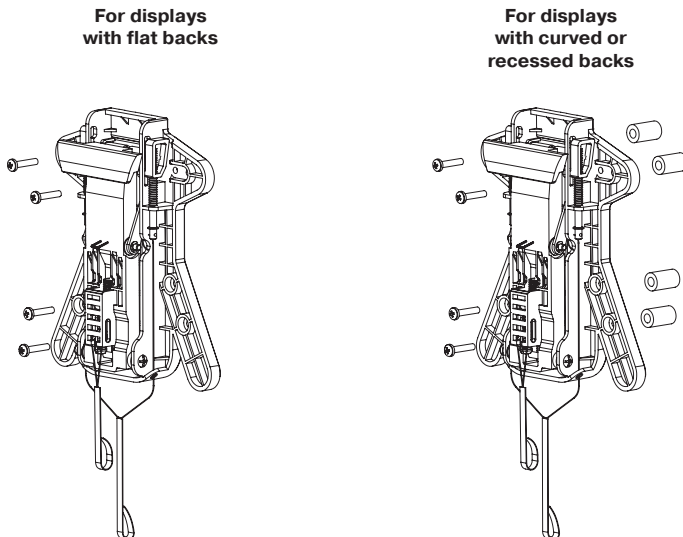

Fig. 5
- If the back of your display is flat and the mounting holes are flush with the surface, you will use the M4 x 12 screws (C) from the hardware kit.
- If the back of your display is curved, has a protrusion, or if the mounting holes are recessed, you will need to use the M4 x 20 screws (D) and may also need to use the spacers (E).
2. Attach the display plate to the back of your display using the screws identified in step 1. If you are using the M4 x 20 screws on a display with a curved or recessed back, you may also need to use the spacers (E) (see Fig. 5). However, you should only use a spacer if necessary.